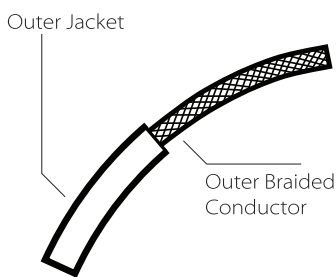

Fig. 1
3. Determine the height at which the fixture (F) is to be hung. Insert the steel cable (G) through the lock (H) and adjust to the desired length. To shorten the cable, push the cable up and it will be locked automatically. To lengthen the cable, lift up on the cable and push up on the lock. While keeping the lock depressed, lower the cable to the desired length. Release the lock to set.
- a. Connect the LED driver's (J) live wire to the live outlet box wire.
- b. Connect the LED driver's (J) neutral wire to the neutral outlet box wire.
- c. Connect the canopy's ground wire (green or uncoated) to the ground outletbox wire. If no ground is present in outletbox, connect canopy's ground wire to the mounting plate (K) using the green screw (included).
5. Install the mounting plate (K) to the outlet box (A) with included screws (L).
6. Install canopy (M) to the mounting plate (K) with countersunk screw (N) using included screwdriver.
7. Use the screwdriver to loosen the slotted set screw (P). Adjust height of cord. Tighten the set screw to set. Reserve extra cord in the canopy (M).
8. Slide cord rings (Q) as close to canopy (M) and fixture (F) as possible (Figure 1).
9. Install trim (R) by threading it to fixture (K).
(Figure 1)
1. Make a 1" slice along the length of the cord's outer jacket (Fig. 1).
2. Carefully strip the outer jacket of the cord and keep the outer braided conductors intact (Fig. 1).